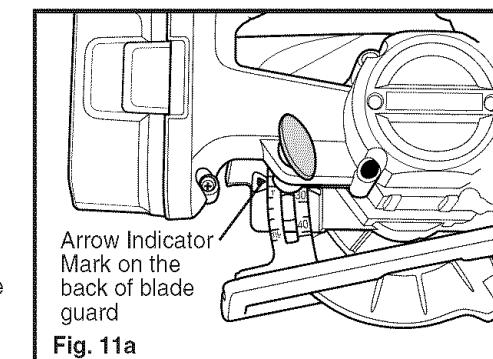

Fig. 11a
TO SET THE BLADE DEPTH (Fig. 11a)
4. Raise or lower the saw blade until the arrow indicator mark on the back of the upper blade guard aligns with the inch mark on the Depth-Of-Cut Scale on the Bracket at your desired depth (see Fig. 11a).